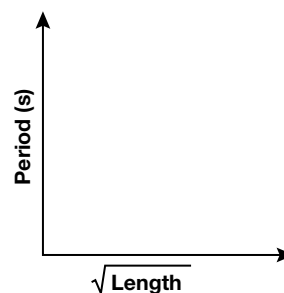

FIGURE 1.4.12
- Plot a new graph of period versus square root of length like the one shown in Figure 1.4.12.